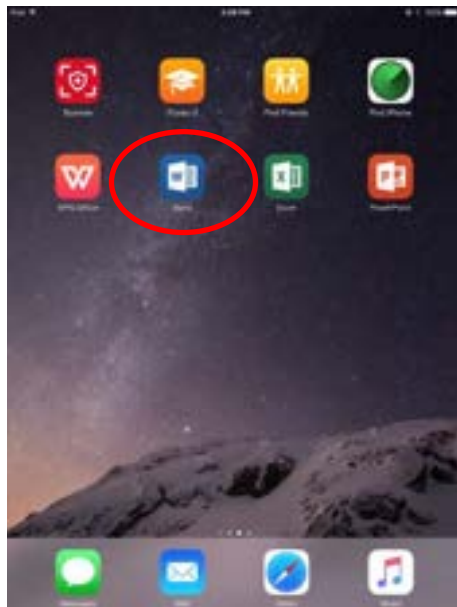

Figure 37
2.1 Install and run “Word”, as shown in Figure 37;